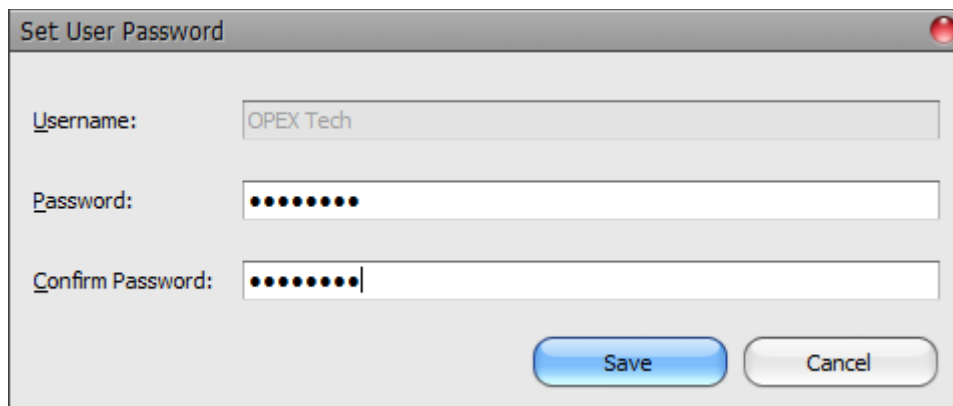

Figure 2-10: Set User Password window
3. Click the **Set Password** button. The **Set User Password** window opens (Figure 2-10).